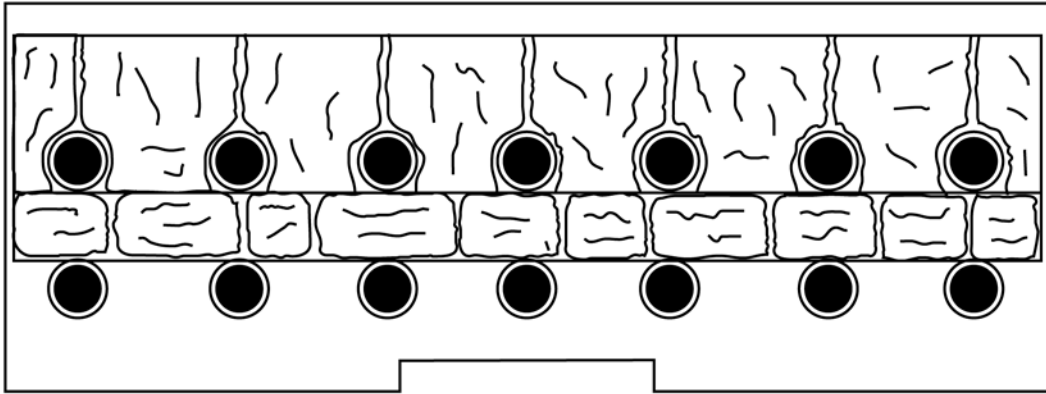

Figure 10.
- 2** Place the rear matrix (with the 7 holes towards the front) on the mat ensuring that the rear side of the matrix is touching the rear stainless steel plate. The holes in the rear matrix should line up with the rear row of holes on the burner tray. See fig 10